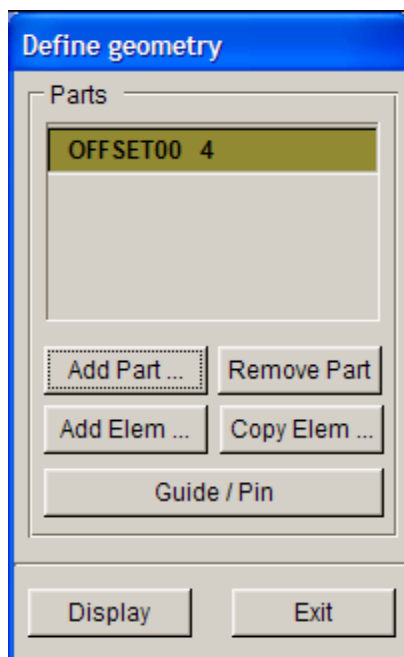

Figure 7.21 Die geometry list
18. Click **Apply** button in the COPY ELEMENTS dialog box to offset elements, following by clicking the **Exit** button. All created elements are automatically added to a new part named **OFFSET00**, and the part is added to the list of **Die**. See Figure 7.21.